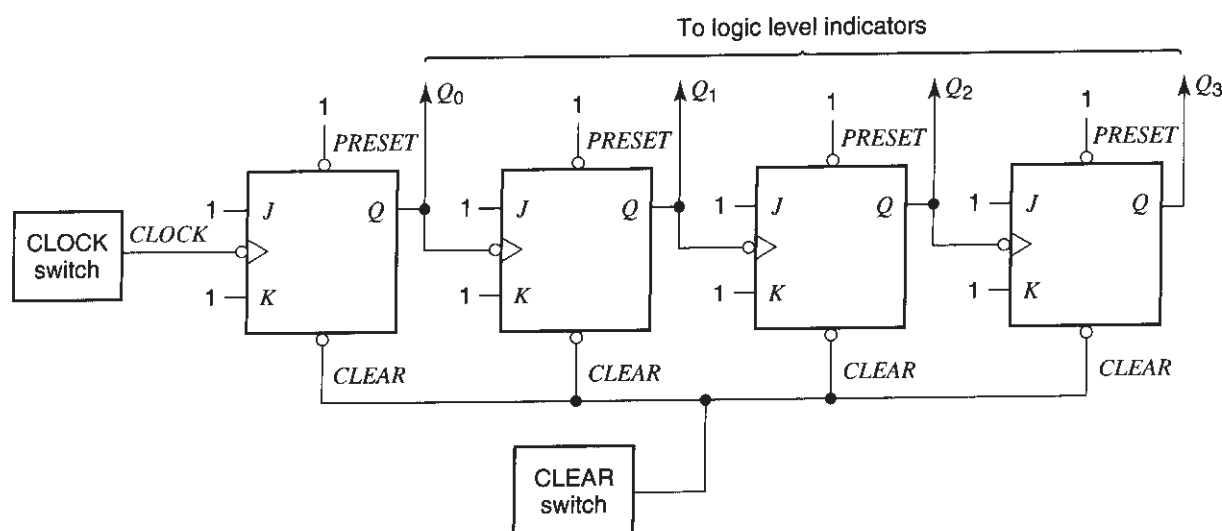
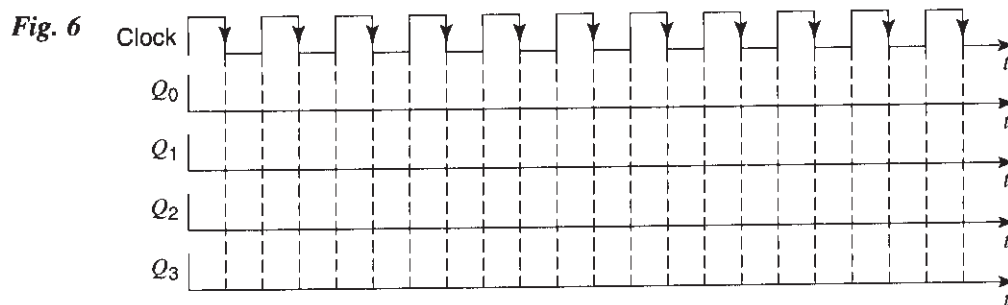

Fig. 5
Fig. 6
5. Consider the ripple counter shown in Fig. 5, *but do not build it yet*. Assume all outputs are cleared. Assume that the clock button is hit repeatedly, resulting in the clock waveform shown at the top of Fig. 6. Complete the waveforms for Q_0 , Q_1 , Q_2 and Q_3 . (*Hint: According to what you found above, each flip-flop output will toggle each time the clock input of that flip-flop goes from high to low.*)¹
6. Now build the circuit of Fig. 5. Two JK flip-flops can be found in one 74LS112 chip, so you will need two such chips. The pin assignment has been given in Fig. 3. You can mark the pin numbers directly on Fig. 5 to make connecting easier. *Be sure you connect*
the ground and supply pins. The $PRESET$ inputs should be permanently connected to a logic 1, as shown in Fig. 5.
8. Clear the outputs. Consider the combined outputs $Q_3 Q_2 Q_1 Q_0$ as a binary number, with Q_3 the most significant bit and Q_0 the least significant bit.² Verify that this number represents the number of times the clock button is hit (or, more precisely, the number of times the clock signal goes from high to low) after the outputs have been cleared. For example, if you hit the clock five times, the binary number $Q_3 Q_2 Q_1 Q_0$ should be 0101. Explain why this happens, with the help of your diagram in Fig. 6.
11. Lower the frequency of the signal to 1 Hz. *Disconnect the clock switch from the input of the ripple counter of Fig. 5*, and connect instead your function generator output, as shown in Fig. 7. The LED indicator at the output of the function generator should be lighting up one time per second.
14. Use the second channel of the scope and another $\times 10$ probe to observe the waveform at Q_0 . Using the vertical position control of the scope, place this waveform below the input waveform. Verify that the two waveforms are related as you have drawn in Fig. 6.
15. Move the second probe to Q_1 , and again observe the relation to the input waveform. Verify that it is as you have drawn in Fig. 6. Repeat for the waveforms at Q_2 and Q_3 . At each of these outputs, the circuit is said to accomplish "frequency division." Why? What is the division factor for each output?